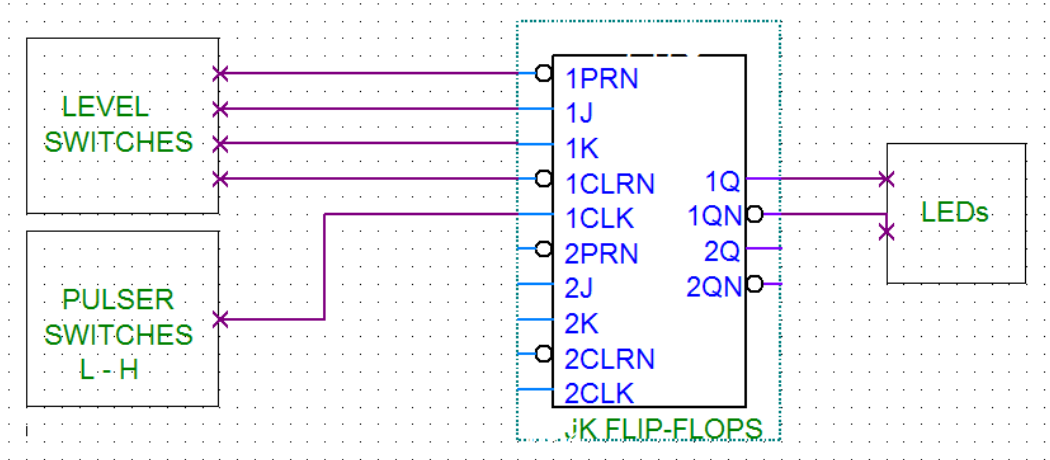

Figure 3
3.2. Use the datasheet and label the input and output pins on the logic diagram in Figure 3.
3.3. Build the circuit in Figure 3. Use the Level Switches to toggle the inputs and the Pulser Switch to clock the FF.